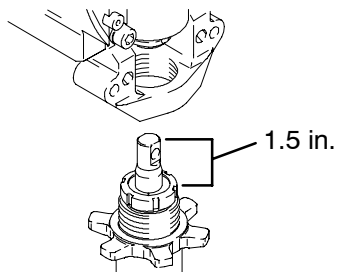

Fig. 18 7676B
1. Fig. 18. Pull piston rod out 1.5 in. Screw in pump until holes in bearing cross link and piston rod align.